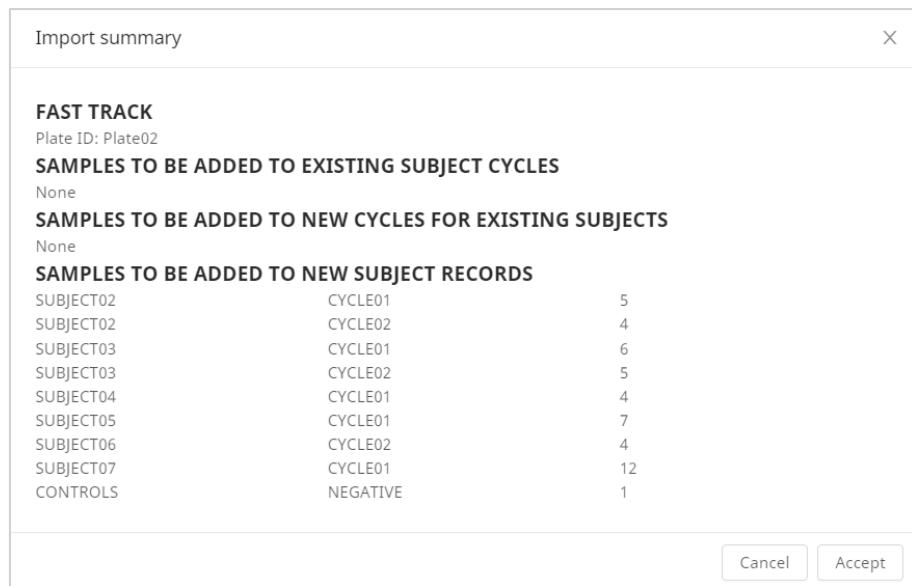

Figure 8: Fast Track import summary
4. Imported data is validated against existing Subject and Cycle records. A summary table is shown confirming if any Subject or Cycle matches have been found, and the number of samples to be added to each Subject-Cycle (Figure 8).